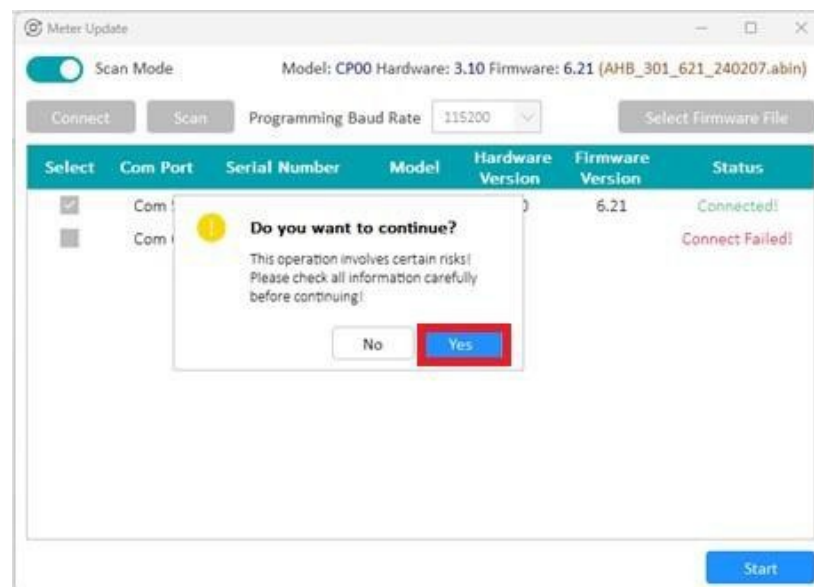

Figure 13
Step 1: Once the Status show some of the target meters Com Port “Connected!”, click “Start”. (As shown as figure 13)